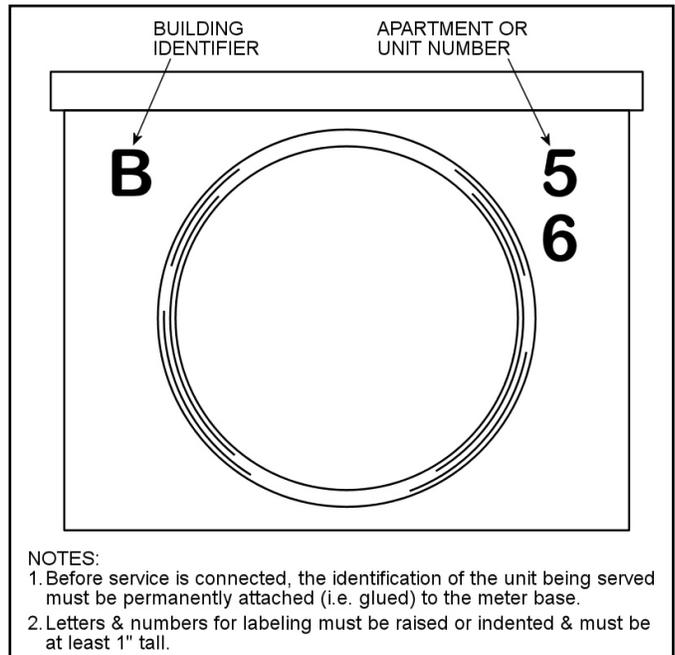

Figure 6: Meter Identification
**Service will not be connected until the marking is completed.** Refer to Figure 6 for details.